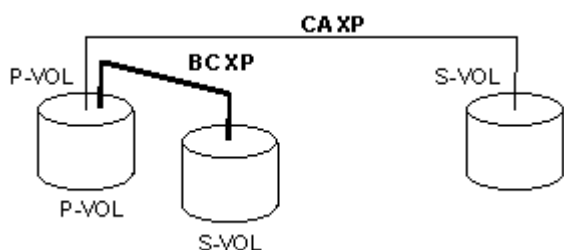

Figure 284 Shared CA P-VOL and shared BC P-VOL
- **Figure 284** shows an example of a CA P-VOL that also functions as a BC P-VOL. With this configuration, use BC for on-site data backup if a CA failure occurs, and use CA to provide remote backup of the BC P-VOL if a BC failure occurs.